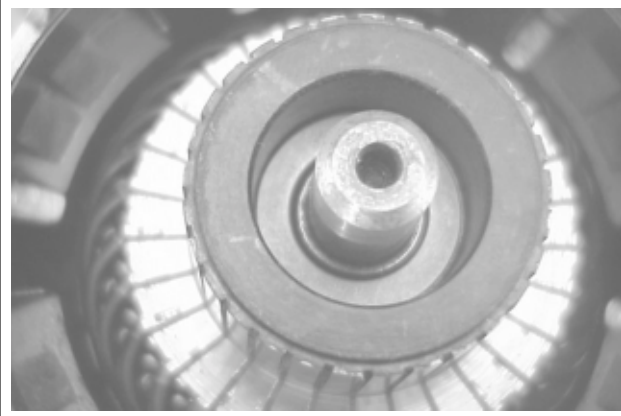

Figure 8-62. Installing Thrust Washer.
9. Install the flat thrust washer onto the commutator end of the armature shaft. See Figure 8-62.